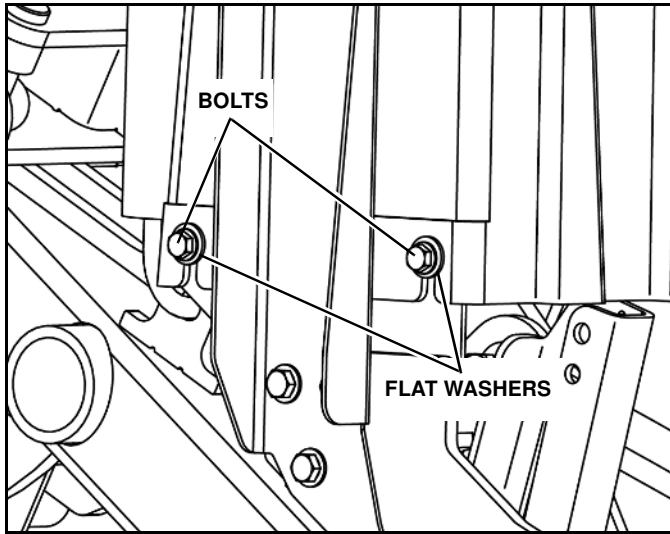

Figure 1-36
19. Install the power unit cover, ensuring that the flat washer on all four bolts are on the exterior of the cover. Tighten bolts securely. (See Figure 1-36)